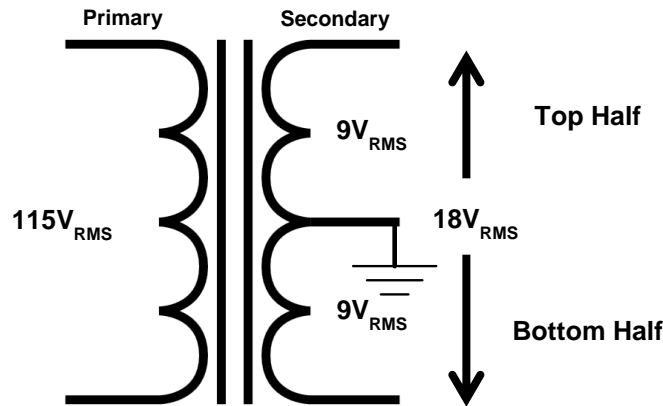

Figure 2 – Center-Tapped Transformer
**Figure 2** above shows the type of transformer that is in the ECE 2115 parts kit. It is called a center-tapped step down transformer. It still contains only two coils, one primary, one secondary. However, now the center of the secondary coil has been “tapped” with a wire so that one can take a voltage between the top and center wire of the secondary coil, take a voltage between the center and bottom wire of the secondary coil, or take a voltage between the top and bottom wire of the secondary coil. The result is three voltage options. In the case above, the figure shows that we can take  $9V_{RMS}$  from the top to center wire,  $-9V_{RMS}$  from the bottom wire to the center wire, or  $18V_{RMS}$  from the top to bottom wire of the secondary coil.